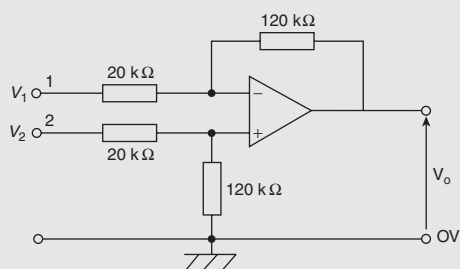

Figure RT5.2
- In the differential amplifier shown in Figure RT5.2, determine the output voltage, V_o when: